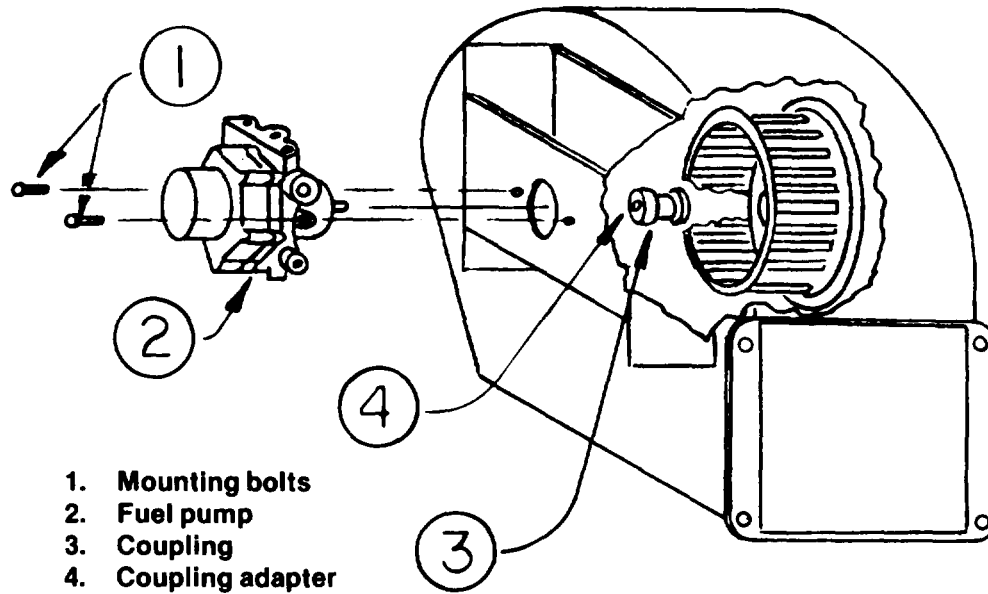

Figure 48. FUEL PUMP MOUNTING.
- a. Removal and Disassembly. Refer to Fig. 48 and remove the fuel pump.